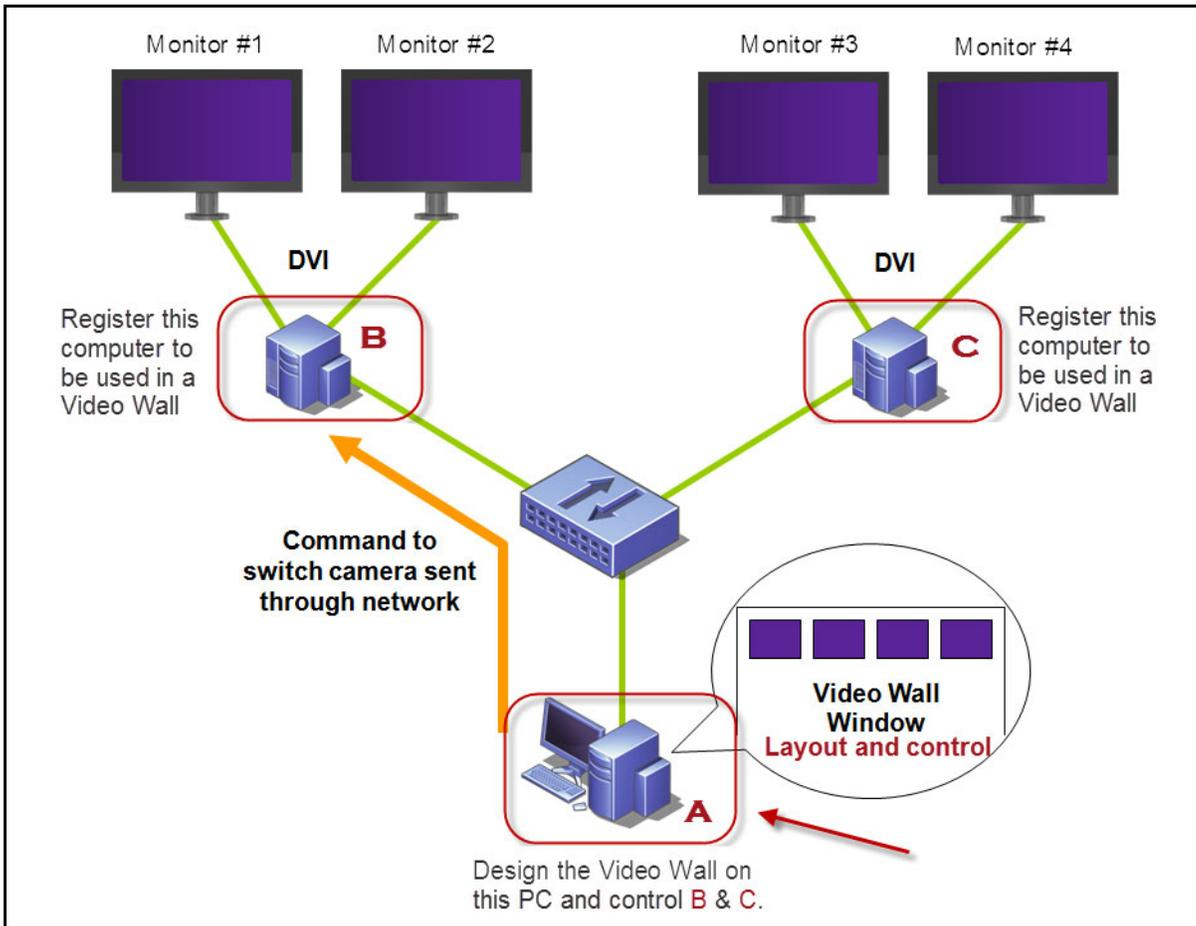

Figure 42. Use computer A to design the video wall
6. Select the name of the video wall and click **Open**. A message in the layout field appears, indicating that you must now select the monitors be used in the video wall you plan to design. Using the example diagram (Figure 42 on page 77), you would select B-Monitor 1 or 2 or C.-Monitor 3 or 4.
1. Launch Symphony Client on the computer where you designed the Video Wall layout. (For example, in Figure 42 on page 77, that would be computer A.)
Important: At this point, you are now in control of the display on other monitors. (Using the example diagram in Figure 42 on page 77, you would be in control of the layout on Client B or C.)
- This layout is saved on the remote computer (client) and NOT on the controlling computer. Using the example diagram (Figure 42 on page 77), the layout would be saved on computer B or C (if C is online) but not on A. Each connected (registered) video wall client saves (or loads) its client layout on its own machine.